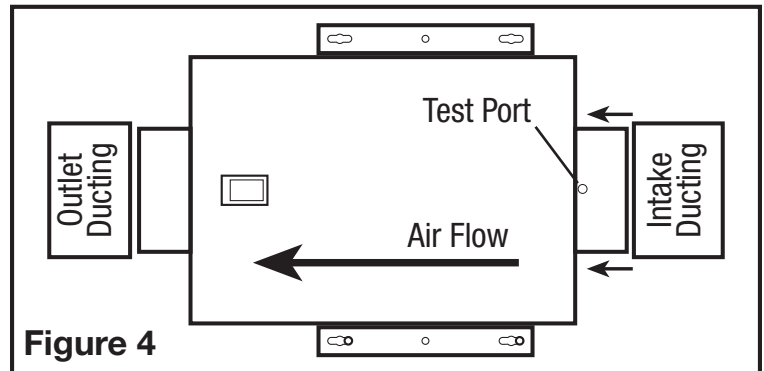

Figure 4
- Connect the ducting to the fan's duct collar (Figure 4). Seal ducting to housing with appropriately rated tape. Use screws or suitable clamps to secure in place. Make sure the fresh air intake is connected to a properly installed intake port that is a suitable weather hood with insect screen to protect air intake. It is recommended that low restriction termination fittings be used.